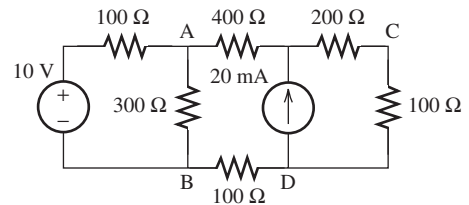

FIGURE P3.33 Circuit for Problem 3.33.
3.33 (H) Determine the best choice of node as a reference node for the circuit in Figure P3.33. Then determine the current between B and D.